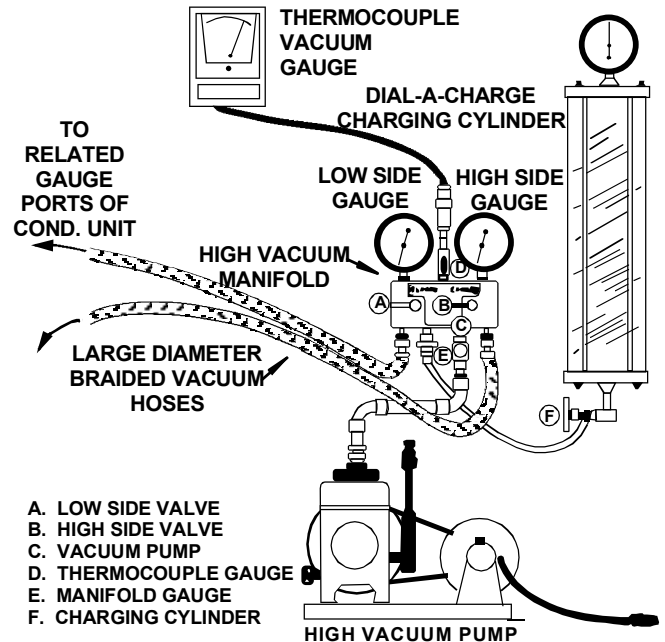

Figure 2
- a. Connect vacuum pump, high vacuum manifold set with high vacuum hoses, vacuum gauge and charging cylinder to unit service valves as shown in Figure 2. Ensure all manifold valves are fully closed.
- b. Open the shutoff valve leading to the vacuum pump (Figure 2) (C), start the pump, and watch the gauge manifold. The readings in the gauge manifold should drop to approximately 29 inches Hg. If this does not happen, there is probably a leak in the pump and gauge system. Repair the leak and test again.
- c. Open the vacuum gauge valve (D) and evacuate to 250 microns or less. If the system cannot be evacuated, replace the vacuum pump equipment and repeat steps (a) through (c) again. Otherwise, the pump and gauge are operating properly and you can continue on to the next step; evacuating the system. Before proceeding, be sure to close the valve (D) to the vacuum gauge to avoid "pegging the meter" and potential gauge damage.
- a. Open the high and low side valves (B & A) on the gauge manifold. **NOTE:** Only open the valve (E) on the gauge manifold leading to the cylinder, not the valve on the charging cylinder (F).
- c. Open the valve (D) to the vacuum gauge. Evacuate until the gauge reads 250 microns or less.
- d. Close the valve to the vacuum pump (C). Wait five minutes, then check the pressure on the vacuum gauge:
2. If the pressure rises, but holds at about 5000 microns, moisture and noncondensibles are still present. Open the valve to the vacuum pump (E), and go back to step (c).